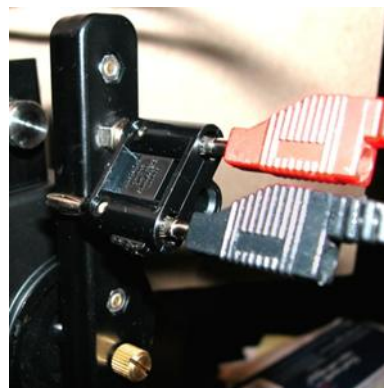

Figure.5. Resistor Disconnected
- Plug the load resistor with one of its plugs out to the side and one plug in the wand (see Figure 5). It makes the circuit open without changing the center of mass.